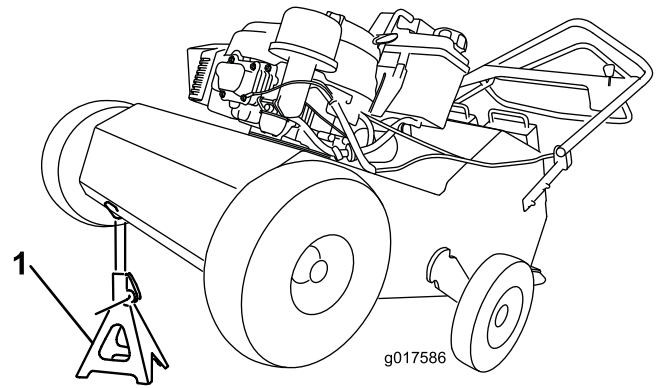

Figure 22
If you need to work on the underside of the machine, you can tip it backward (Figure 22). Do not tip the machine forward or you will foul the air cleaner with gasoline. Secure the machine with a jack stand before working under it.
2. Raise the front of the machine to gain access to the chains (Figure 22) and block it in place.